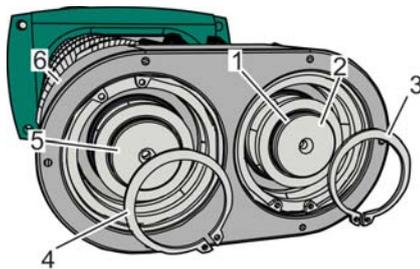

Fig. 74: Disassembling the outer retaining ring from the drive shaft, example
10. ➤ Remove the outer retaining rings (Fig. 74/3, 4) from the drive shafts (Fig. 74/2, 5) and place to the side.
Carefully pull down the bearing housings (Fig. 74/7) from the drive shafts (Fig. 74/2, 5) and place to the side.